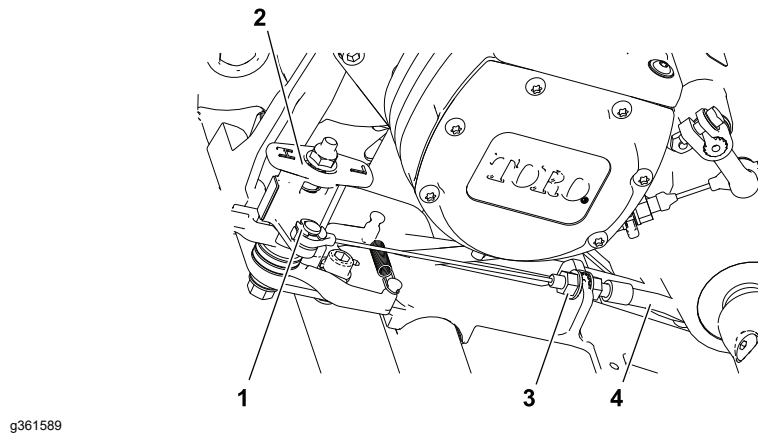

Figure 81
3. Remove the reel cable (item 4 in Figure 81) from the reel selector assembly (2) as follows:
- A. Loosen the front cable jam nut (3) and lift the reel cable (4) from the casting slot of the base.
- B. Remove the retaining ring (1) that secures the reel cable eyelet to the reel selector assembly (2) and slide the reel cable eyelet from the selector assembly.
- A. Install the cable spring (3) to the clevis connector (10) on the reel lever assembly (7). Orientate the cable spring hook end toward front of the machine.
- B. Slide the cable (1) into the upper receiver weldment (12). Ensure that the jam nut (2), flat washer and lock washer are on both sides of the bracket. Adjust jam nuts so that equal amount of cable threads are visible above the jam nuts. Leave the jam nuts snug until final cable adjustment.
2. Route the reel cable to the reel selector assembly (item 2 in Figure 81) and install the reel cable (4) as follows:
- A. Slide the cable eyelet to the reel selector assembly (2) and secure with a retaining ring (1).